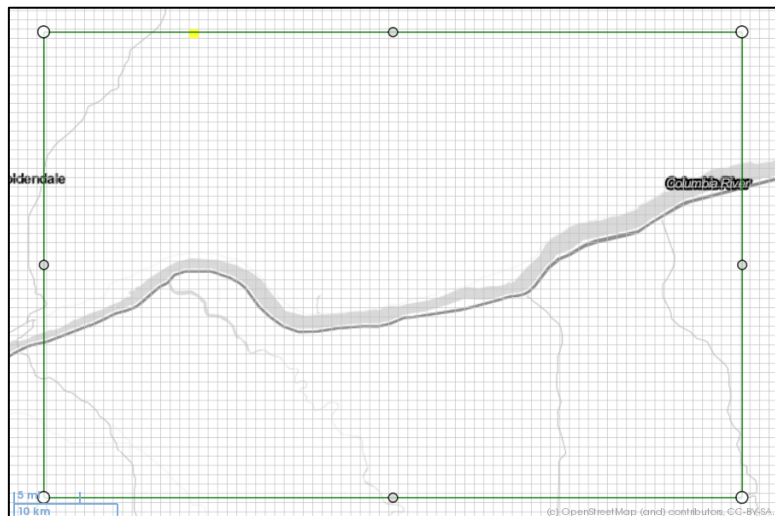

Figure 16. A Polygon shown on the map viewer
- Right-click on the Map Viewer and then select Add Polygon from the popup menu. A polygon will be added to the map (Figure 16). The polygon has two types of vertices that are differentiated by their sizes and color. You may modify the geometry of a polygon by dragging its vertices.